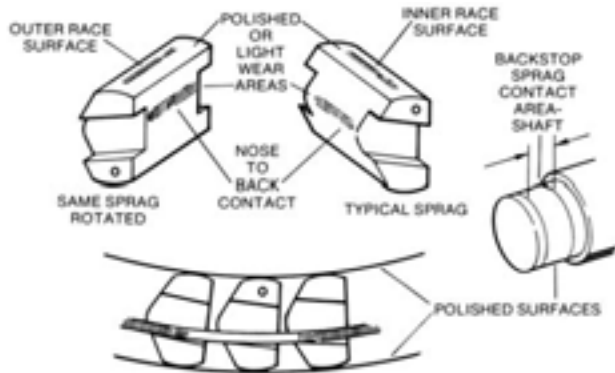
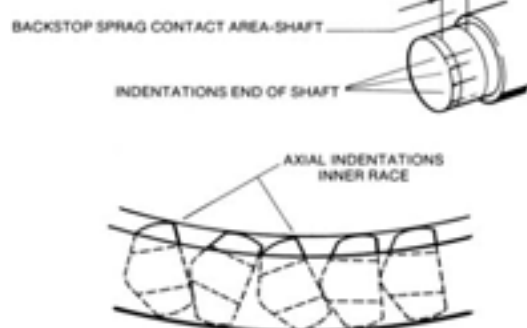
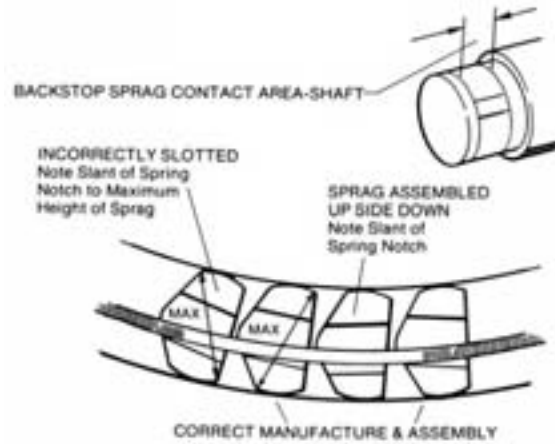

Figure 2 NORMAL OPERATING CONDITION
Figure 3 IMPROPER ASSEMBLY BACKSTOP TO DRIVE
Figure 4 IMPROPER ASSEMBLY AND SPRAG MANUFACTURE
- If possible before backstop removal from shaft, check sprag position through radial clearance between shaft and backstop end washer. This can show if backstop was assembled to shaft correctly, Figure 3, and if sprags were manufactured or assembled in backstop correctly, Figure 4.
Normally a backstop, if properly installed and applied and the drive properly maintained, will look like Figure 2 after many years of service.
Figure 2 below illustrates normal wear. Figures 3 through 8 illustrate other types of wear which will help you evaluate the cause of a given malfunction.
By forcing or hammering a backstop onto the shaft, one or more of the sprags can roll over and thus cause lockup of the shaft in both directions of rotation when the shaft is rotated by hand. If the drive is allowed to be started, the rolled-over sprags could flip back to their normal operating position. The axial indentations produced by the sprags on the shaft when they rolled over on startup or during the forced assembly onto the shaft will cause the backstop assembly to appear as shown in Figure 3 due to vibration or kinked or broken spring.
Slide backstop onto shaft. To ease assembly rotate the shaft in the correct free rotation or the backstop outer race in the opposite rotation. Forcing a backstop onto the shaft may produce axial indentations or cause a few sprags to lay over improperly as in Figure 3.